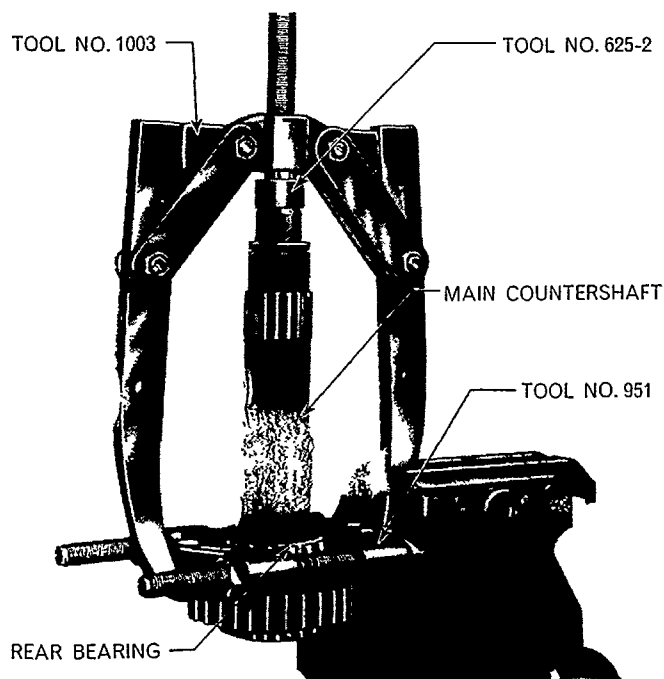

Figure 81
1. Carefully examine the main countershaft and, if necessary, pull the rear bearing from the countershaft using Tools Nos. 951, 1003, 625-2, Figure 81.